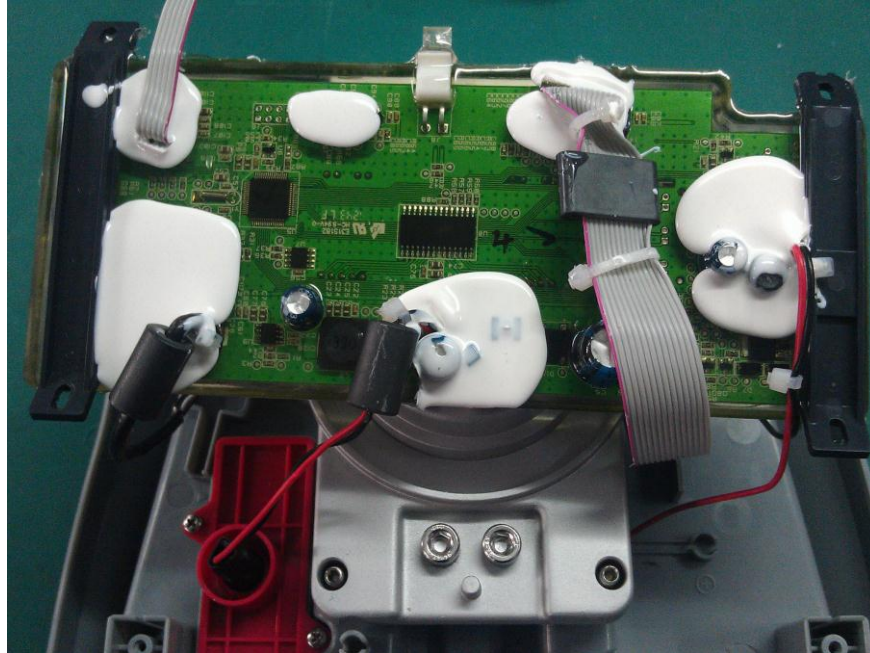

Figure 2-1. Top view of main PCB.
**NOTE:** The following steps involve power applied to the scale. Load Cell solder contacts can be used as measuring points. See Figure 2-1.
3. Using a DVM, measure the excitation voltage (EXE+ and EXE– in Figure 2-1.) The reading should be 4.6~4.7 volts dc. This is the excitation voltage for the Load Cell and is regulated. If the voltage is lower, replace the PCB. (See Section 3.4.) Then perform Operational Tests. (See Chapter 4.)
4. Measure incoming power from the transformer connector shown in Figure 2-1. The voltage should read 0 volts with power off and above 12 Volts dc with power on.
2. With the Simulator set to zero, solder its cable leads to their counterparts on the PCB, using the Load Cell Cable solder points on the PCB. (See Figure 2-1.).